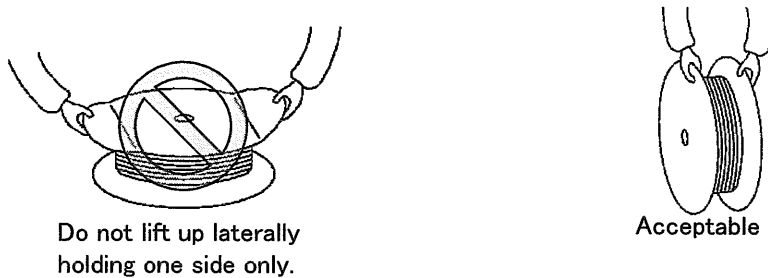

Fig.4
- (1) Avoid leaving or carrying the contact reel in an open area without wrapping it in proper material
- (2) Do not lift up and carry the contact reel by gripping one the side of reel, this may result in damage to the reel, and contacts before use. (See Fig.4)